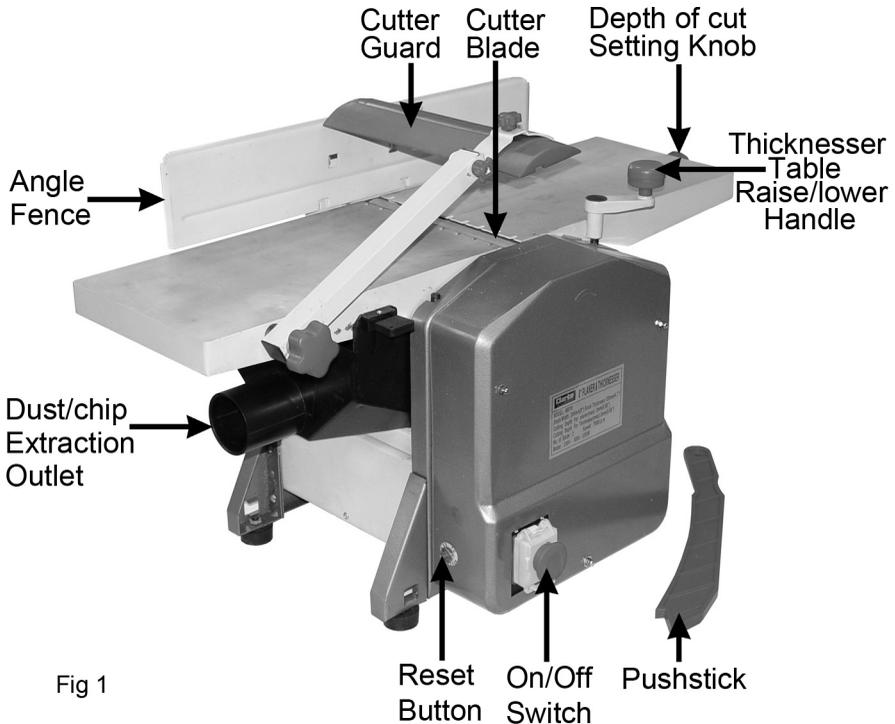

Fig 1
1. Set the depth of cut, using the Depth of Cut Setting Knob - see Fig.1. Turn anti-clockwise to increase the cutting depth, clockwise to decrease, using the scale, indicated in Fig. 8, as a reference. For the initial cut, we recommend a depth of cut of no more than 1mm. The maximum depth of cut is 2mm.